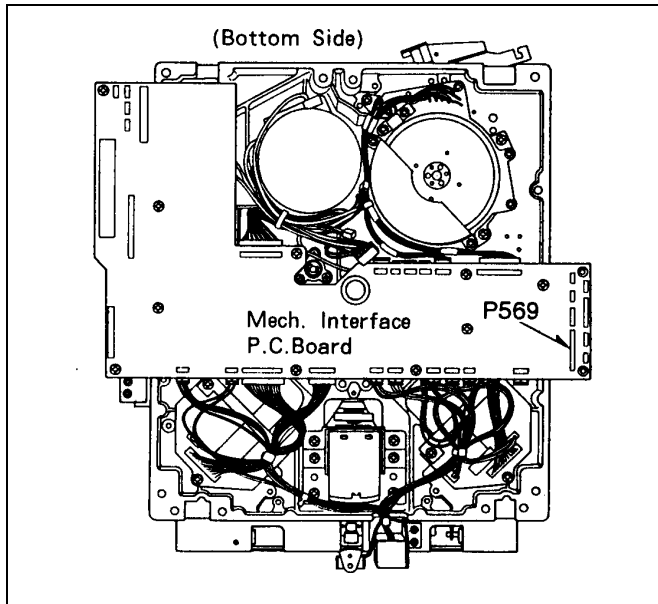

Figure 7-11-1 Pinch Solenoid Connector (P569) Removal
3. Disconnect connector P569 on Mech. Interface P.C. Board as shown in figure 7-11-1.